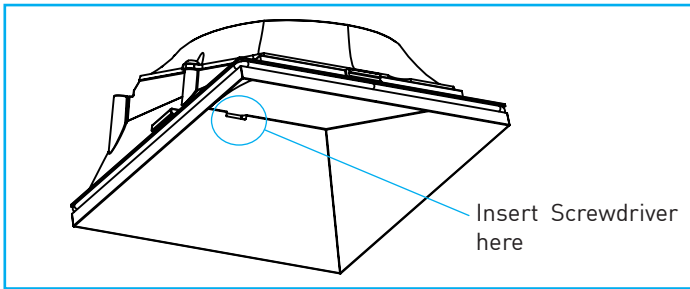

Fig.24
A. Remove baffle. Dry location baffles are removed by lifting lens and pulling down on the top of baffle. Wet location baffles or those with sealed lenses are removed by pulling down on the lens with a suction cup. Wallwash baffles require inserting small flat head screwdriver and carefully prying down as shown in "Fig.24".